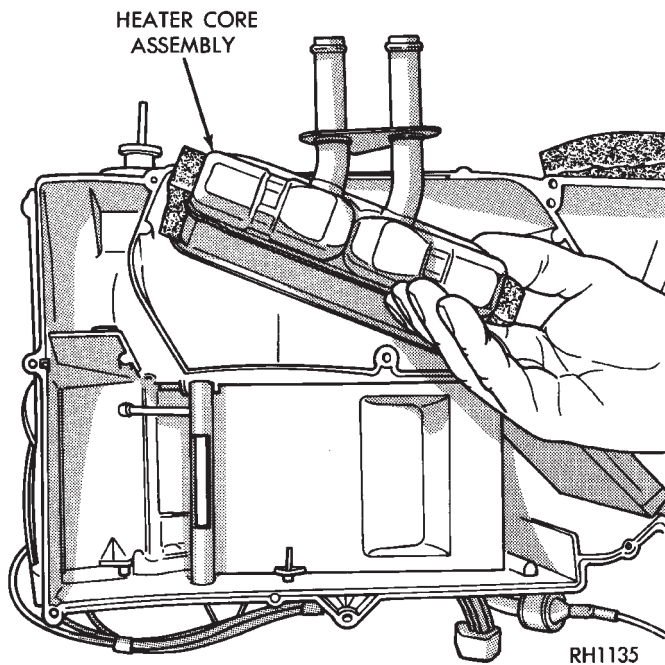

Fig. 20 Removing or Installing Heater Core Assembly
(2) Remove one screw retaining the vacuum harness. Feed harness through hole in cover.
(3) Remove thirteen screws from top cover and remove cover. Temperature control door will come out with the cover. Remove the nut and lever from the door shaft to remove the temperature door from the cover.
(4) Remove screw from heater core tube retaining bracket and lift heater core out of unit (Fig. 20).